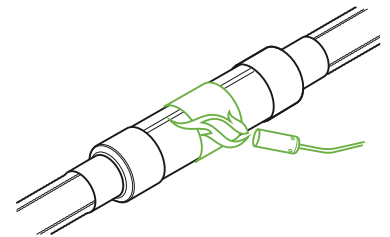

Fig. B12.2.17
17. Using a gas burner, shrink-down the heat shrink band in the same way described in step 6 (Fig. B12.2.17).